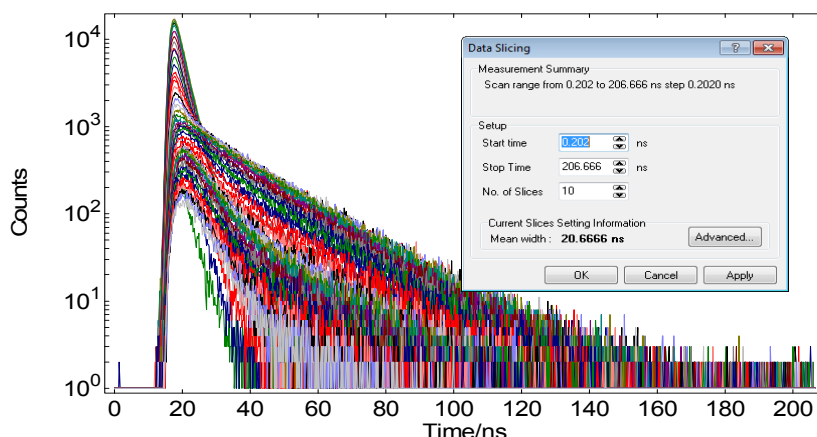

Figure 7-11: TRES-Map with dialog for data slicing
1. Click **Data >> TRES data slicing ....** This will open up a dialogue box as shown in Figure 7-11.